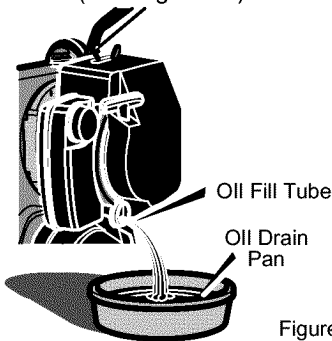

Figure 12
2. Put an **oil drain pan** under the **oil fill tube** (See Figure 12).